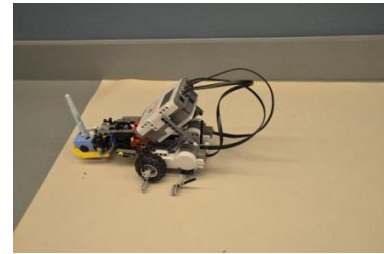

Figure 12
- Places paper on the table on which the student can draw and measure lines. See Figure 12